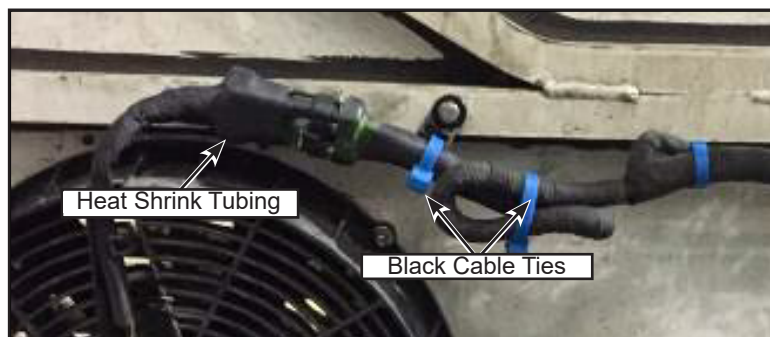

Figure 3 - Cut Cable Ties on Harness Side Wiring and Remove Heat Shrink Tubing on Delphi Connectors
- 1.8. Cut the two black cable ties from the harness side wiring (see figure 3).
- 1.9. Remove the heat shrink tubing and the Coroplast tape from the connectors (see figure 3) and then disconnect the connectors. To help removing the heat shrink tubing, trace a shallow line on the heat shrink tubing with a sharp cutting blade (X-ACTO tool or equivalent) and then, using a heat gun, heat the tubing until it splits.